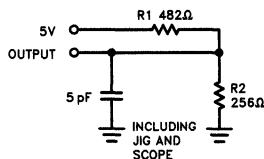

Figure 1b
- tDHZOE and tDLZOE are specified with CL = 5 pF as in *Figure 1b*. tDHZOE transition is measured ± 500 mV from steady state voltage. tDLZOE transition is measured ± 100 mV from steady state voltage. These parameters are guaranteed and not 100% tested.